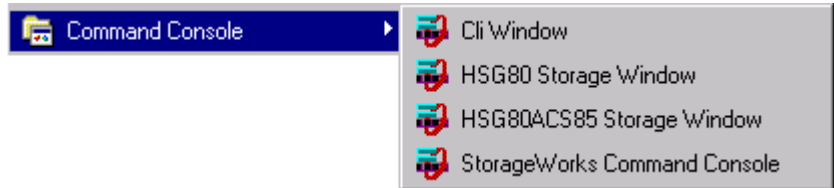

Figure 3-4. Launching the StorageWorks command console navigation window
1. From the **START** menu, select Command Console, then StorageWorks Command Console (reference Figure 3-4).